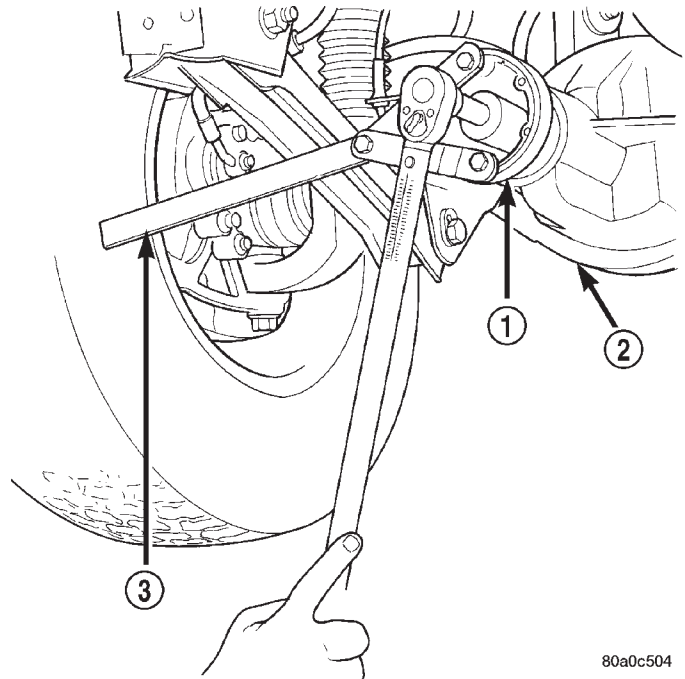

Fig. 20 Tightening Pinion Nut
(8) Using yoke holder 6958 and a torque wrench set at 353 N·m (260 ft. lbs.), crush collapsible spacer until bearing end play is taken up (Fig. 20). If more than 353 N·m (260 ft. lbs.) is needed to begin to collapse the spacer, the spacer is defective and must be replaced.